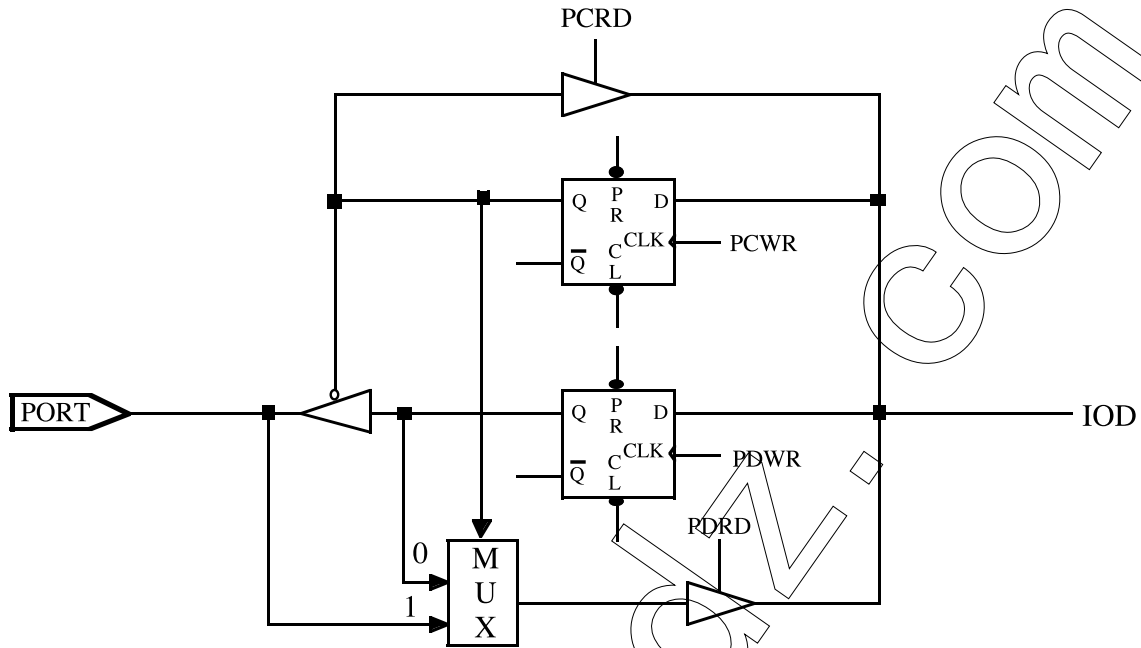

Fig. 7 The circuit of I/O port and I/O control register
- Bit 3 (ROC) ROC is used for the R-option. Setting ROC to "1" will enable the status of R-option pins (P80, P81) to be read by the controller. Clearing ROC will disable the R-option function. Otherwise, the R-option function is introduced. Users must connect the P81 pin or/and P80 pin to VSS by a 560K Ω external resistor (Rex). If Rex is connected/disconnected with VDD, the status of P80 (P81) will be read as "0"/"1". Refer to Fig. 7(b). The ROC bit can be read and written.
The I/O ports can be defined as "input" or "output" pins by the I/O control registers (IOC5~IOC9) under program control. The I/O registers and I/O control registers are both readable and writable. The I/O interface circuit is shown in Fig. 7. Note that the reading paths are different between input and output while reading the data from the I/O port.